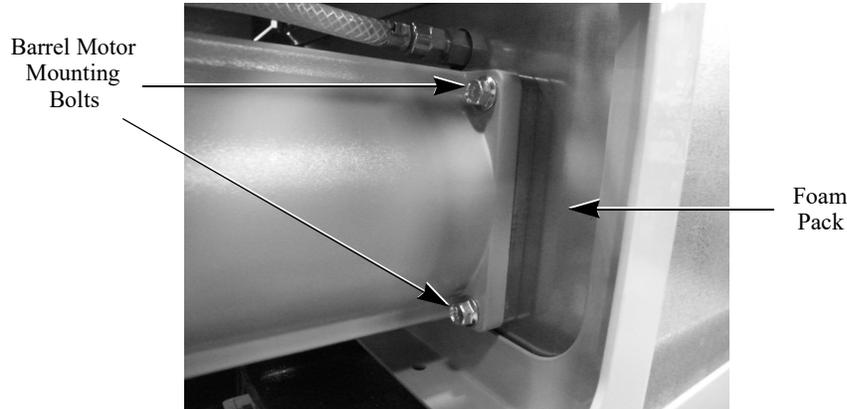

Figure 70. Side View of Motor Showing Two of the Four Mounting Bolts
The barrel motor does not require any special alignment when being replaced. It mounts on four (4) bolts. These bolts are screwed into threaded bosses in the foam pack barrel assembly, as shown in Figure 70. To replace a barrel motor, perform the procedure in Table 73